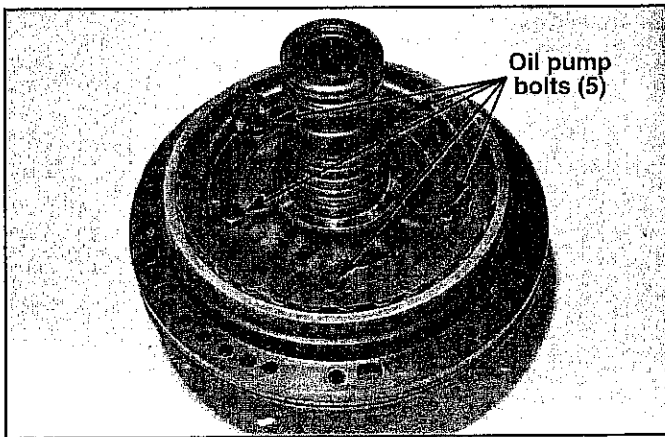

FIGURE 23
STEP 1 Remove five oil pump bolts. (See Fig. 23) This will separate the pump body (front half) from the pump cover (rear half). Be careful when handling the pump not to damage pump surfaces or seal ring grooves.